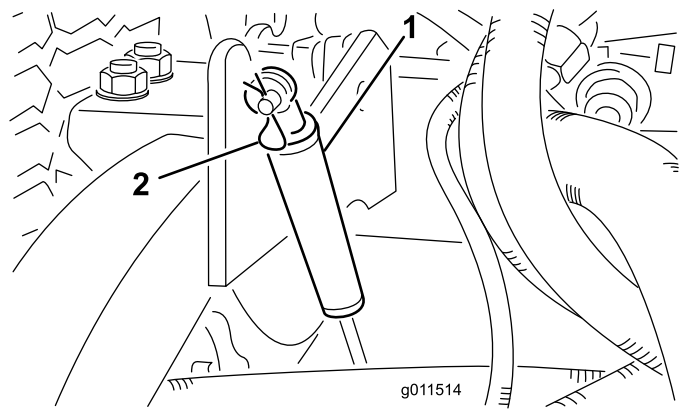

Figure 5
8. Remove the hairpin cotters securing the dampers to the cutting-unit lift arms (Figure 5).